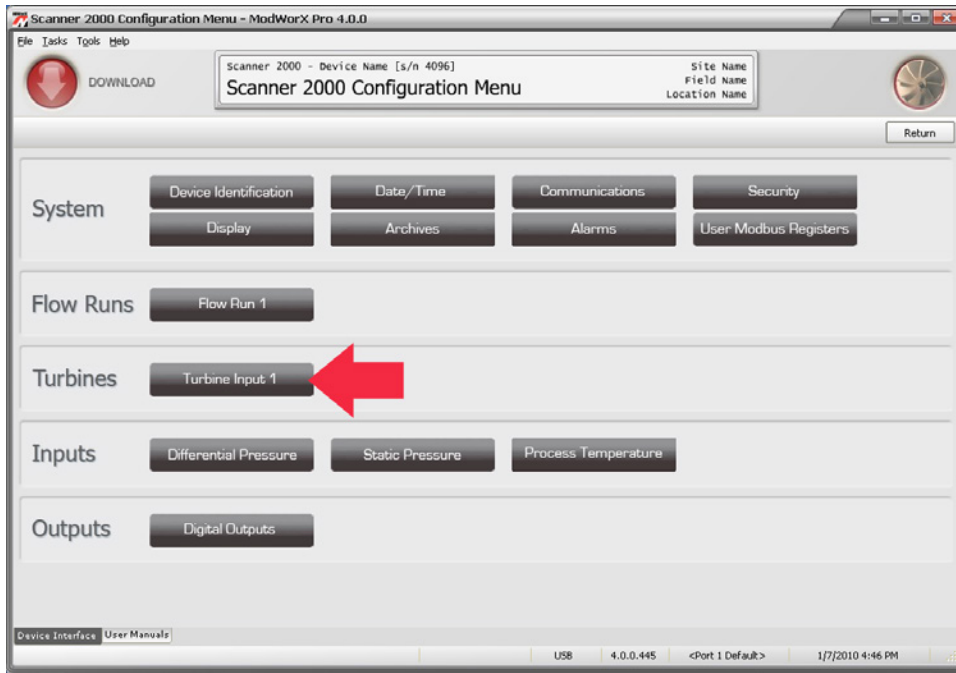

Figure 5.2
- Then, click on **Turbine Input 1** (or **Turbine Input 2**, if applicable) in the Configure screen (Figure 5.2). To configure a pulse input for a Scanner 2000, you must select Turbine Input 2. To configure a pulse input for a Scanner 2200, either Turbine Input 1 or Turbine Input 2 may be used.